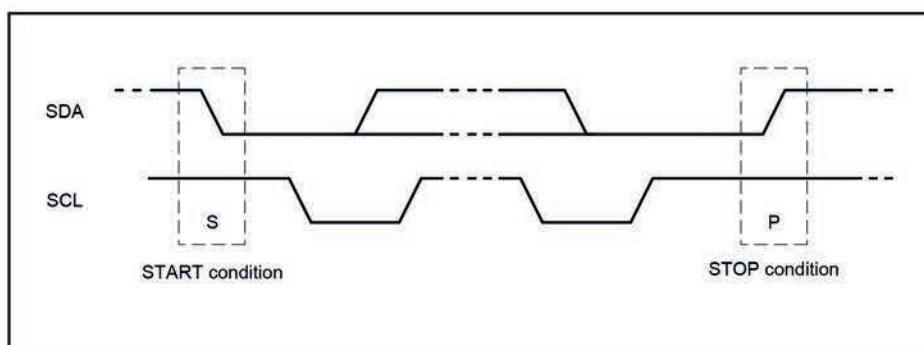

Figure 17. Definition of START and STOP conditions
Both data and clock lines remain HIGH when the bus is not busy. A HIGH-to-LOW transition of the data line while the clock is HIGH is defined as the START condition (S). A LOW-to-HIGH transition of the data line while the clock is HIGH is defined as the STOP condition (P) (see Figure 17).